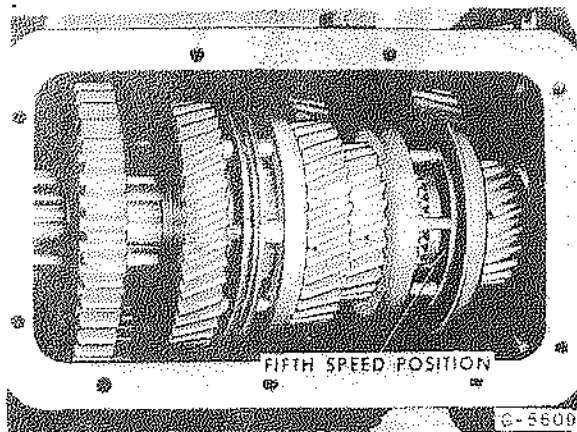

Fig. 9 - Synchronizer Positions With Transmission in Fifth Gear.
When the control lever is moved from fourth to fifth gear the shift fork (14, Fig. 1) moves the sliding clutch (37) forward and against the three pins of the inner stop ring (37). The inner stop ring then presses against the outer stop ring (36) and begins to equalize the speed of the main drive gear (56) with that of the sliding clutch. As soon as the speed is equalized the shift fork completes engagement of the sliding clutch with the main drive gear (Fig. 9). Since the sliding clutch is constantly meshed with the clutch gear (38), which is splined to the mainshaft, the torque is carried by the synchronizer to the mainshaft. The countershaft (48) has no function in delivering torque when the transmission is in fifth gear. It is carried through the transmission by the mainshaft itself; hence the fifth speed forward is direct.